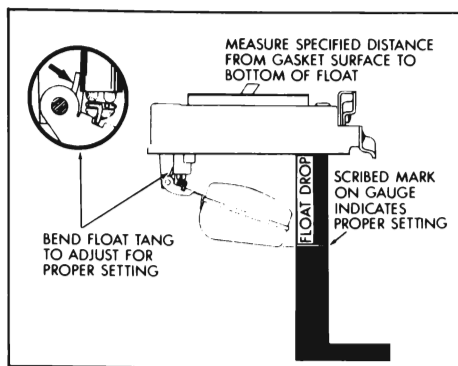

Figure 3-29—Float Drop Adjustment
10. Adjust Float Drop. With air horn assembly held upright, measure distance from gasket to bottom of float pontoon at outer end using Float Drop Gauge (1-29/32") as shown. Bend float tang as required to adjust float drop. See Figure 3-29.